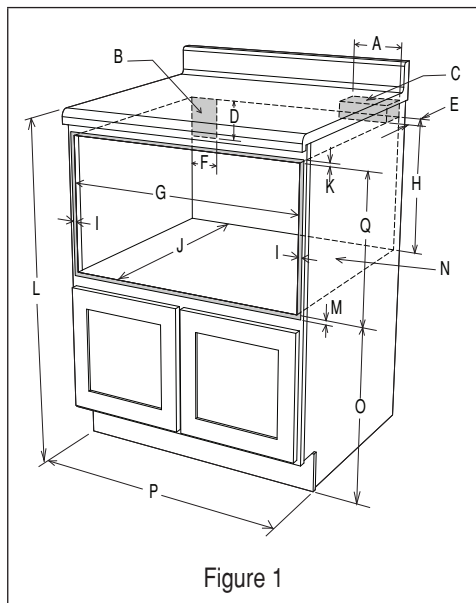

Figure 1
- For SAFETY CONSIDERATIONS do not install drawer in any combustible cabinetry, which is not in accord with the stated clearances and dimensions on page 6, See Figure 1.
- Dimensions that are shown in Figure 1 must be used. Given dimensions provide minimum clearance. Locate electrical outlet in the shaded area in the upper left-hand corner of the cut-out. See Figure 4.
Figures 1 and 2 contain many Drawer Microwave measurements for reference when planning the drawer's location.
- To reduce the risk of tipping of the drawer, the Anti-Tip block must be properly installed located 14-13/16" above the floor on which the appliance will sit. The 6" Anti-Tip block must be provided by the installer. See Figure 1 and 3. The Anti-Tip block prevents serious injury that might result from spilled hot liquids.